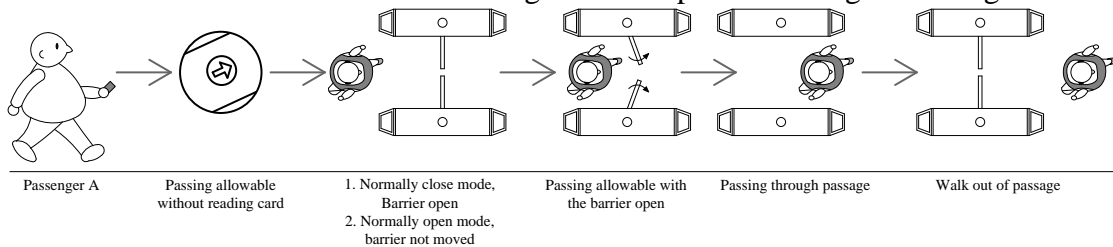

Fig.13
4) Free passing: for a passage, the passengers may pass through following the indication mark of the direction indicator without reading card. The process is as given in Fig.13.